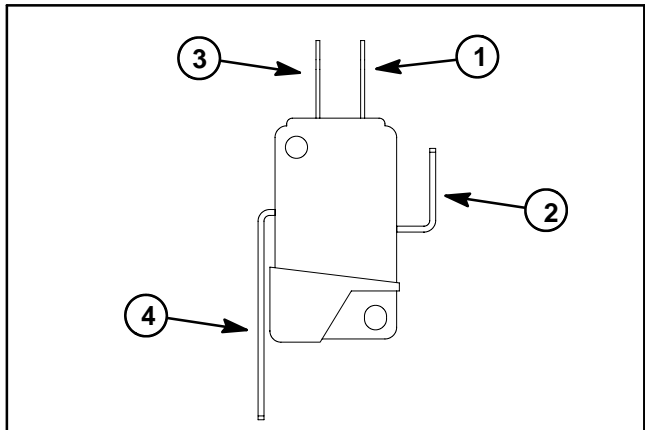

Figure 40
D. Connect a multimeter (ohms setting) across the normally open (NO) and common terminals of the switch (Fig. 40).